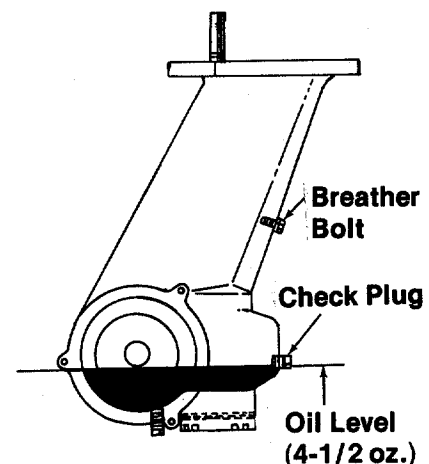

FIGURE 4.
**Gear Case**—Whenever disassembly of gear case is required, gear case should be thoroughly cleaned and lubricated with 4½ ounces of PENNANT OIL EP #35000. This is available in 8 ounce squeeze tubes. Order part number 747-0136. See figure 4.